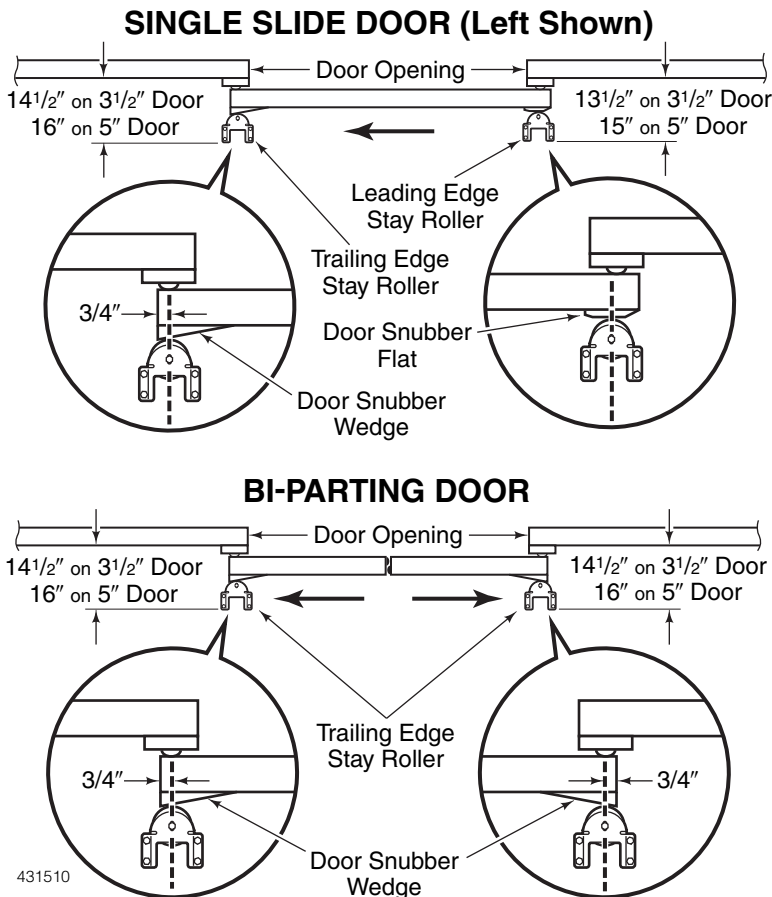

Figure 11
3. Be sure each Stay Roller Lock Nut is centered in the adjustment slot. Note the distance from the wall for your door size and type. See Figure 11. With Bi-Parting door(s) fully closed, position the center of the Trailing Edge Stay Roller 3/4" in from the end of the Door Snubber Wedge. For Single Slide Doors, center the Leading Edge Stay Roller on the flat spot on the Door Snubber.